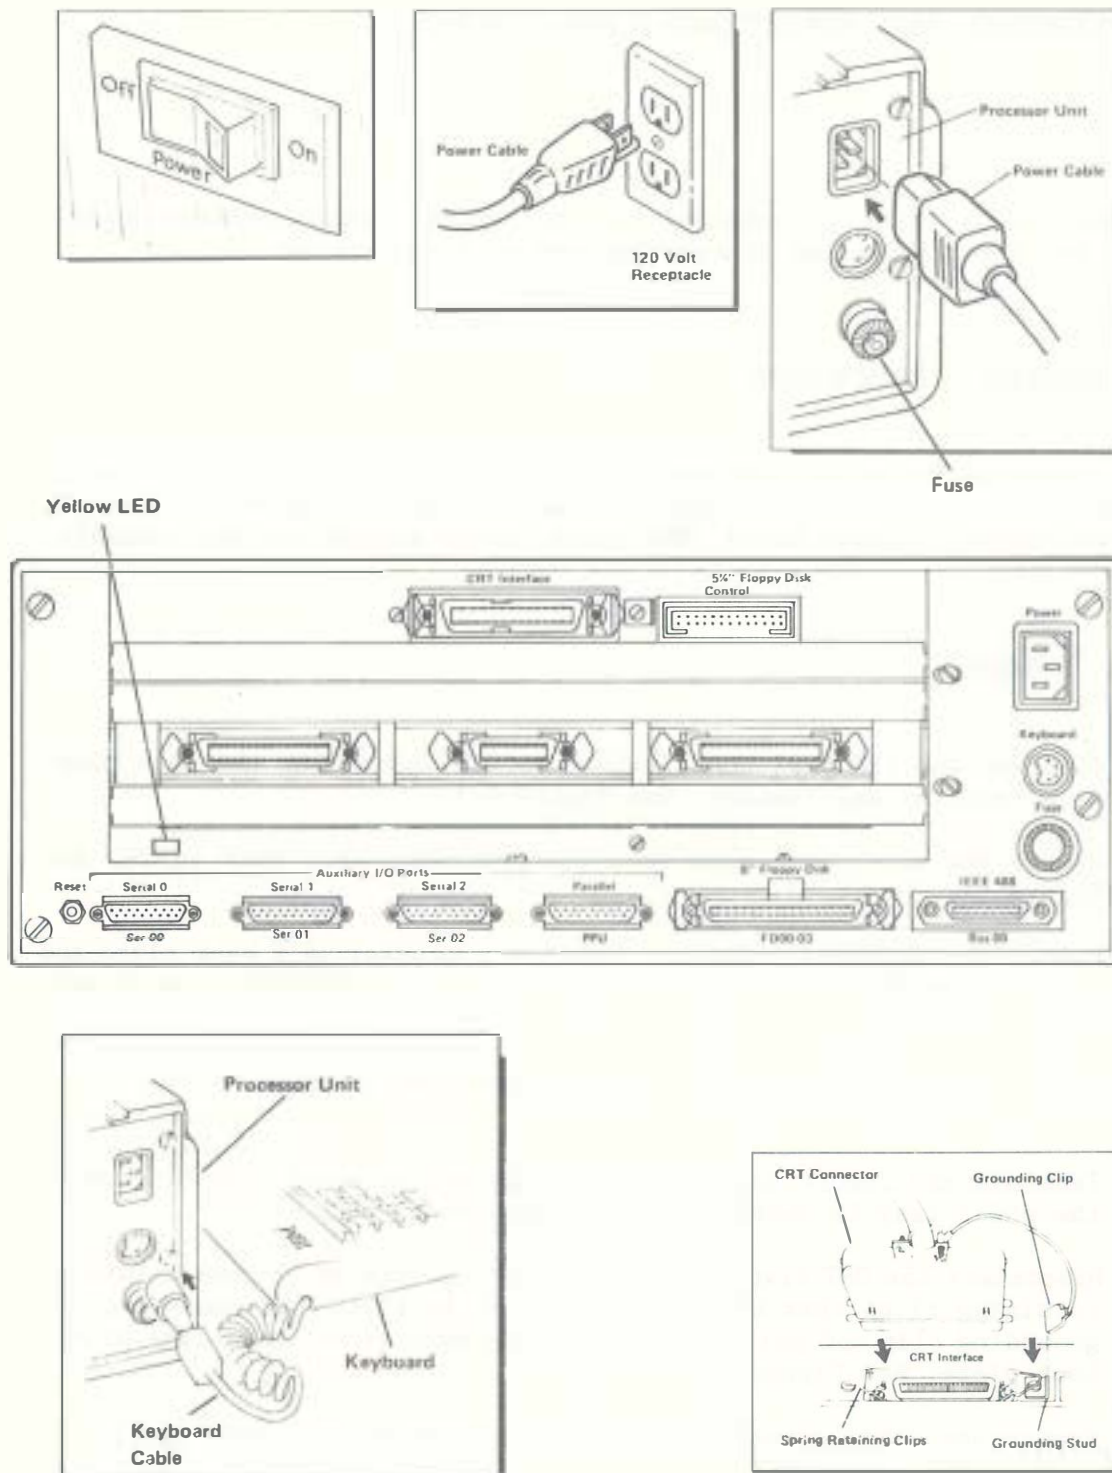
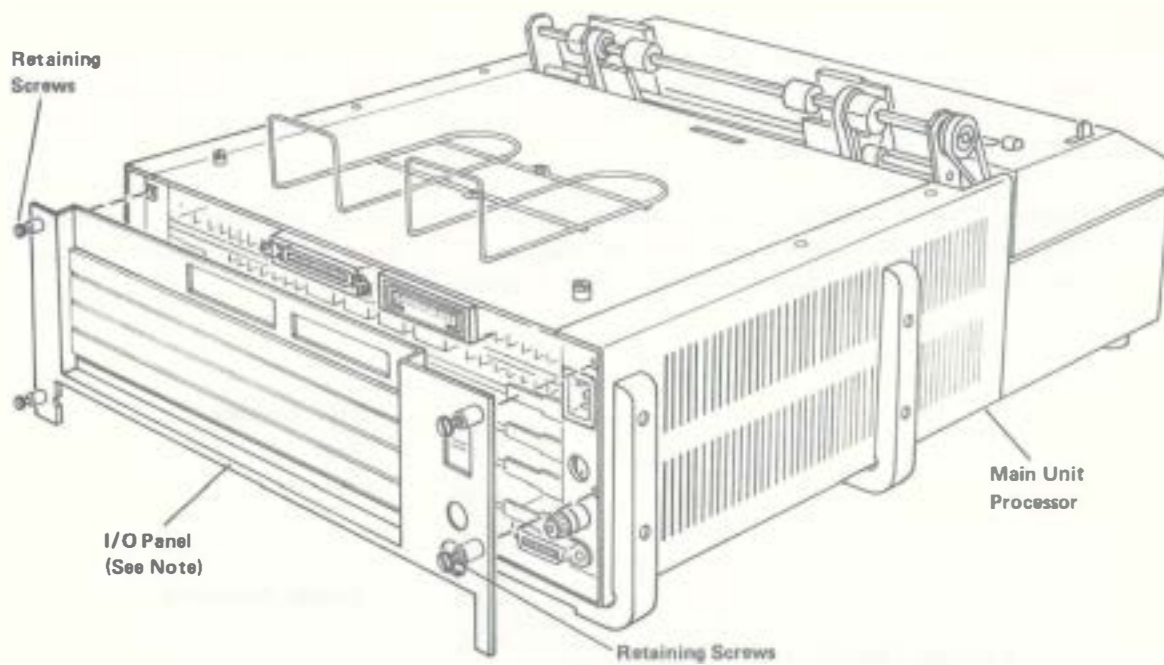

Figure 5-1. Processor Unit Back Plate Connections
Figure 5-3. Processor Unit Back Plate.
1. Position the IBM 9001 power switch to OFF and unplug the main power cord from the wall outlet. See Figure 5-1.
2. Remove the main power cord from the processor unit back plate. See Figure 5-1.
3. Remove the keyboard connector from the processor unit back plate and move the keyboard to another area to provide workspace. See Figure 5-1.
5. Disconnect the CRT display cable by pushing back on the spring-loaded retaining clips that hold the connector in place disconnecting the grounding clip and pulling the connector away from the processor unit back plate. See Figure 5-1.
8. Remove the processor unit back plate by loosening the four retaining screws in the plate (all processor units). (On earlier processor units you also have to remove the eight screws on the serial and parallel ports.) Pull the back plate away from the processor unit. See Figure 5-3.
See Figure 5-1 and Figure 5-3. Replace the eight screws on the serial and parallel ports (earlier processor units).
4. Reconnect the CRT display cable, the keyboard connector, the main power cord, and any other connector that was attached to the IBM 9001. See Figure 5-1.
2. Remove the main power cord and all other connectors from the processor unit back plate. See Figure 5-1.
3. Remove the processor unit back plate by loosening the four retaining screws in the plate (all processor units) or removing the eight screws on the serial and parallel ports (earlier processor units). See Figure 5-3. Pull the back plate away from the processor unit.
3. Place the back plate on the processor unit. Be sure that the spring-loaded CRT display cable connector clips are not behind the back plate and then secure the plate by tightening the retaining screws. See Figure 5-3. Replace the eight screws on the serial and parallel ports (earlier processor units).
4. Reconnect the main power cord and all other connectors removed from the processor unit back plate. See Figure 5-1.
5. Plug the main power cord into the wall outlet. See Figure 5-1.